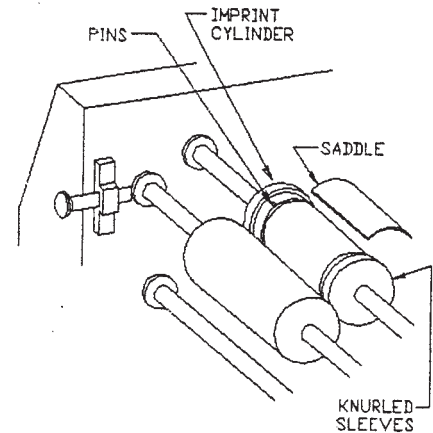

FIG 16
8. Install the Signature Saddle into Print Cylinder by rotating the Knurled Sleeve until both cutouts are aligned with the pins. Drop in Signature Saddle and rotate Sleeve to lock position. Slide Print Cylinder to Signature area. (Fig. 16)